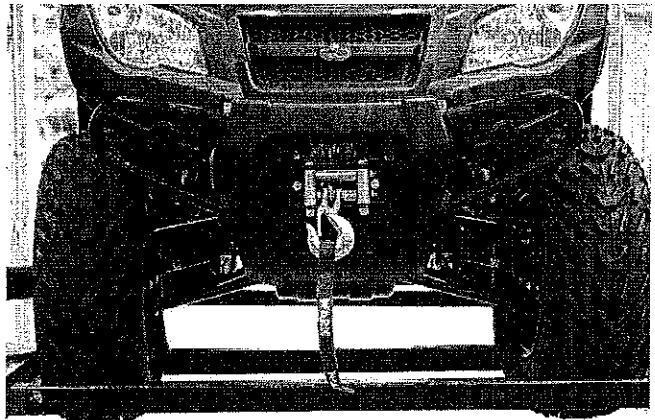

Figure 8
11. Install winch fairlead and winch hook as described in winch installation guide. See figure 8.